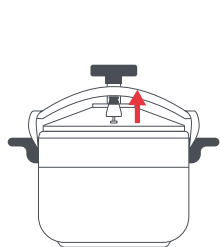

Fig. 11
To use this method, move the pressure cooker off the heat source and let the pressure drop naturally. Depending on the amount of food and liquid, this may take 10 to 15 minutes. When it has cooled down, remove the rotary valve (22) to release the pressure (Fig. 11). If there is still some pressure left inside the pressure cooker, it will be expelled through the chimney (23).
Once the pressure has dropped, remove the rotary valve (22) (Fig. 11) and wait until the steam has dissipated completely. This method is used when the pressure needs